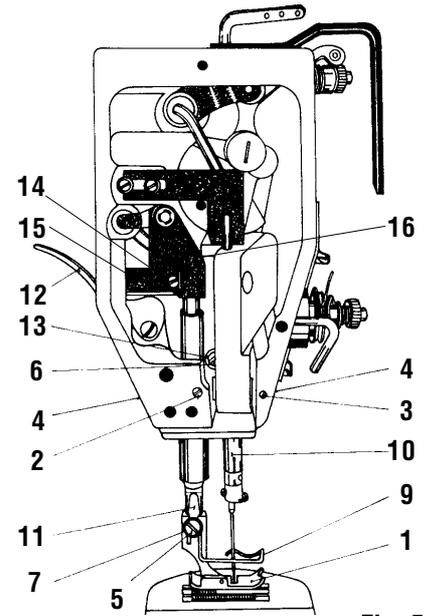

Fig. 5
8. Presser foot replacement (Fig. 5)
9. Presser foot lifting setting (Fig. 5, 6, 7, 8)
10. Setting of the needle bar height (Fig. 5)
15. Setting the needle punch into the middle of the needle groove in the throat plate in longitudinal direction (Fig. 5)